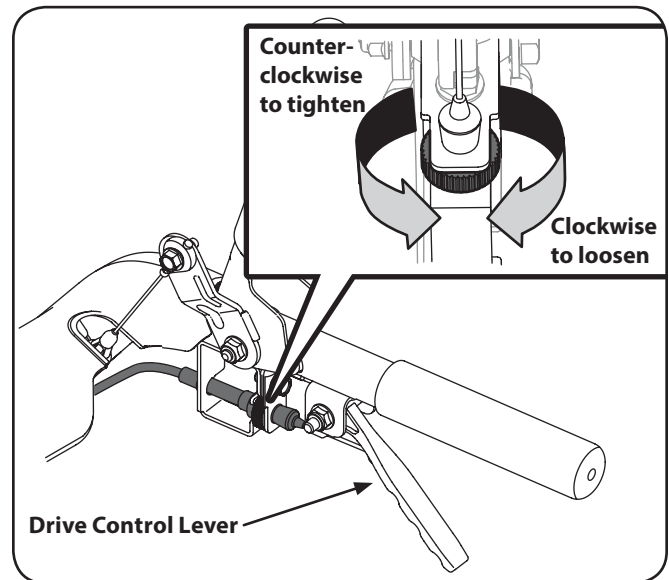

Figure 6-9
1. Locate the thumb wheel on the drive cable just above the drive control lever on the power base, see Figure 6-9.